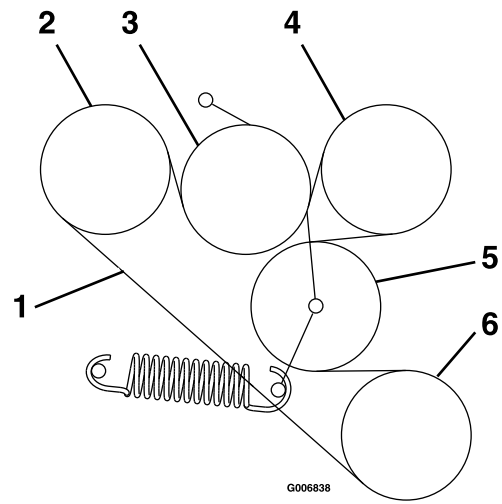

Figure 53
- Route new belt onto sheaves as shown in the decal located on the back of the left drive shield (Figure 53).